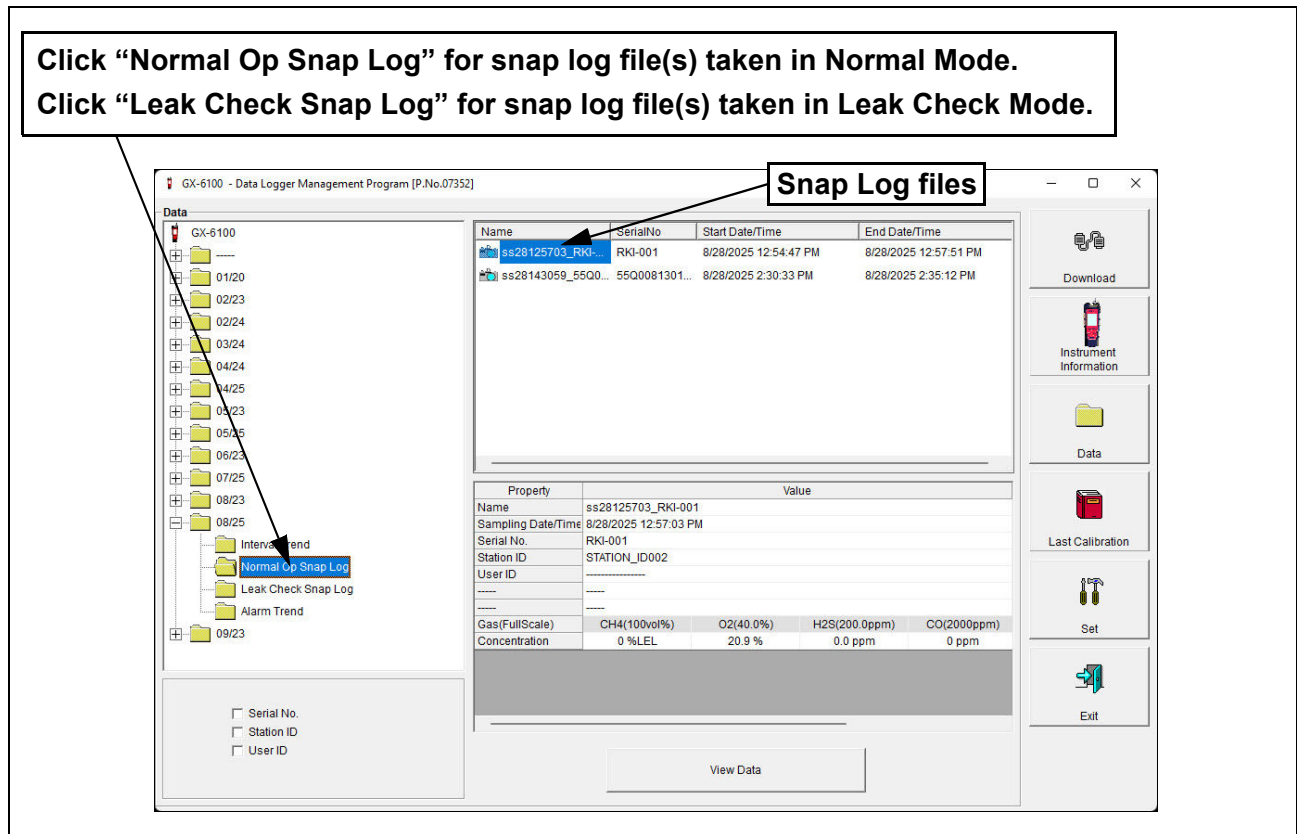

Figure 20: Data Window - Selecting Normal Mode Snap Log Files
- To view the snap log file in table format, double click the selected file or click **View Data** at the bottom of the Data Window shown in Figure 20. Snap log files can only be viewed in table format.
- To view the bar hole file in table format, double click the selected file or click **View Data** at the bottom of the Data Window shown in Figure 20. These files can only be viewed in table format.